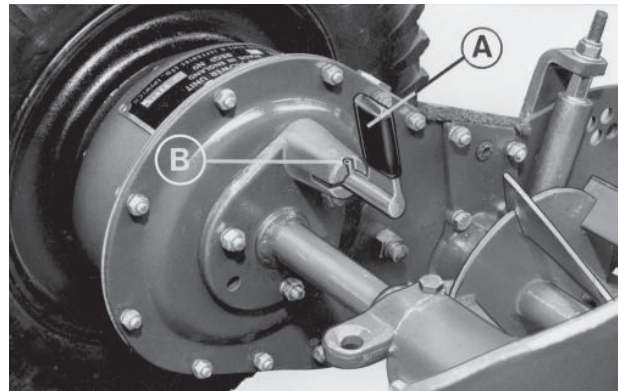

Fig 23
1. (Fig. 23). Engage the cutting unit drive by pulling out and turning the gear selectors (A) on each side of the cutting unit to a vertical position and ensure that the cross pin (B) is located in the vertical groove. Both selectors must be in drive otherwise overloading and also wheel slip will be caused.